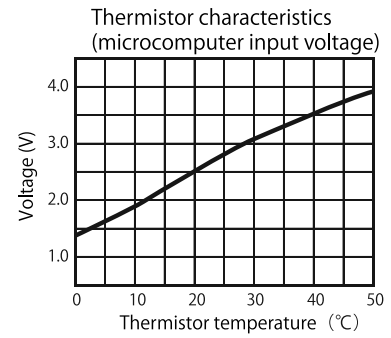
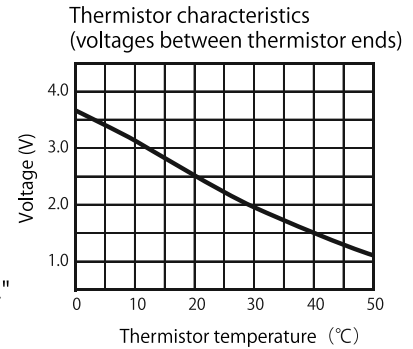

Fig. 5-2
Fig. 5-3
- The relationship between the thermistor temperature and circuit voltage is roughly as shown in Fig. 5-2. If it is easier to take actual measurements between the terminals of CN1 and CN2, refer chart in Fig. 5-3 "Voltages between Thermistor ends."